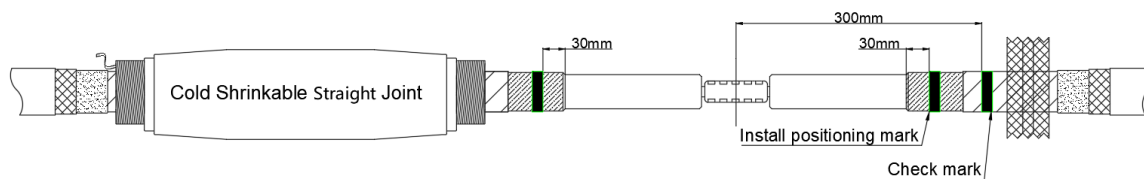

Fig.5
- Measure 300mm from 1/2 of the length of the B after crimping, and make a mark (Fig 5).